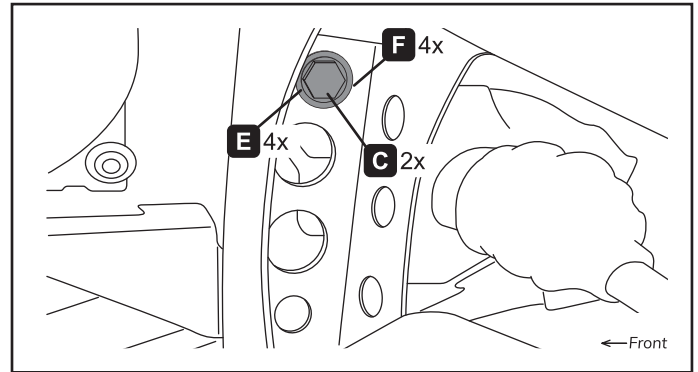

Figure 6. Wolverine rear bolt location
3. Install rear hardware through machine chassis and winch mount (A).
**Wolverine:** Install bolts (C), washers (E, F) and nuts (D) as shown in figures 6 and 7.